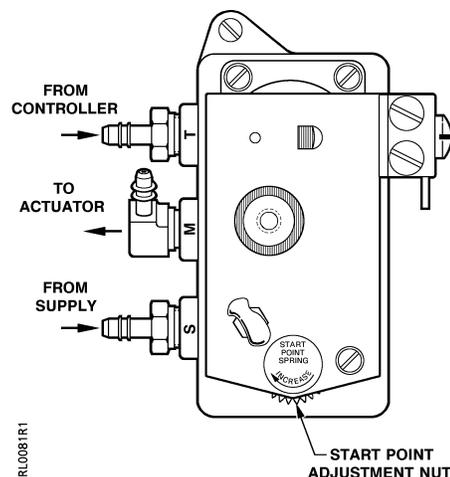

Figure 5. Start Point Adjustment.
See *Figure 5*.
4. If this is not the desired start point pressure, turn the start point adjustment nut (*Figure 5*) clockwise to increase the start point pressure and counterclockwise to decrease the pressure.